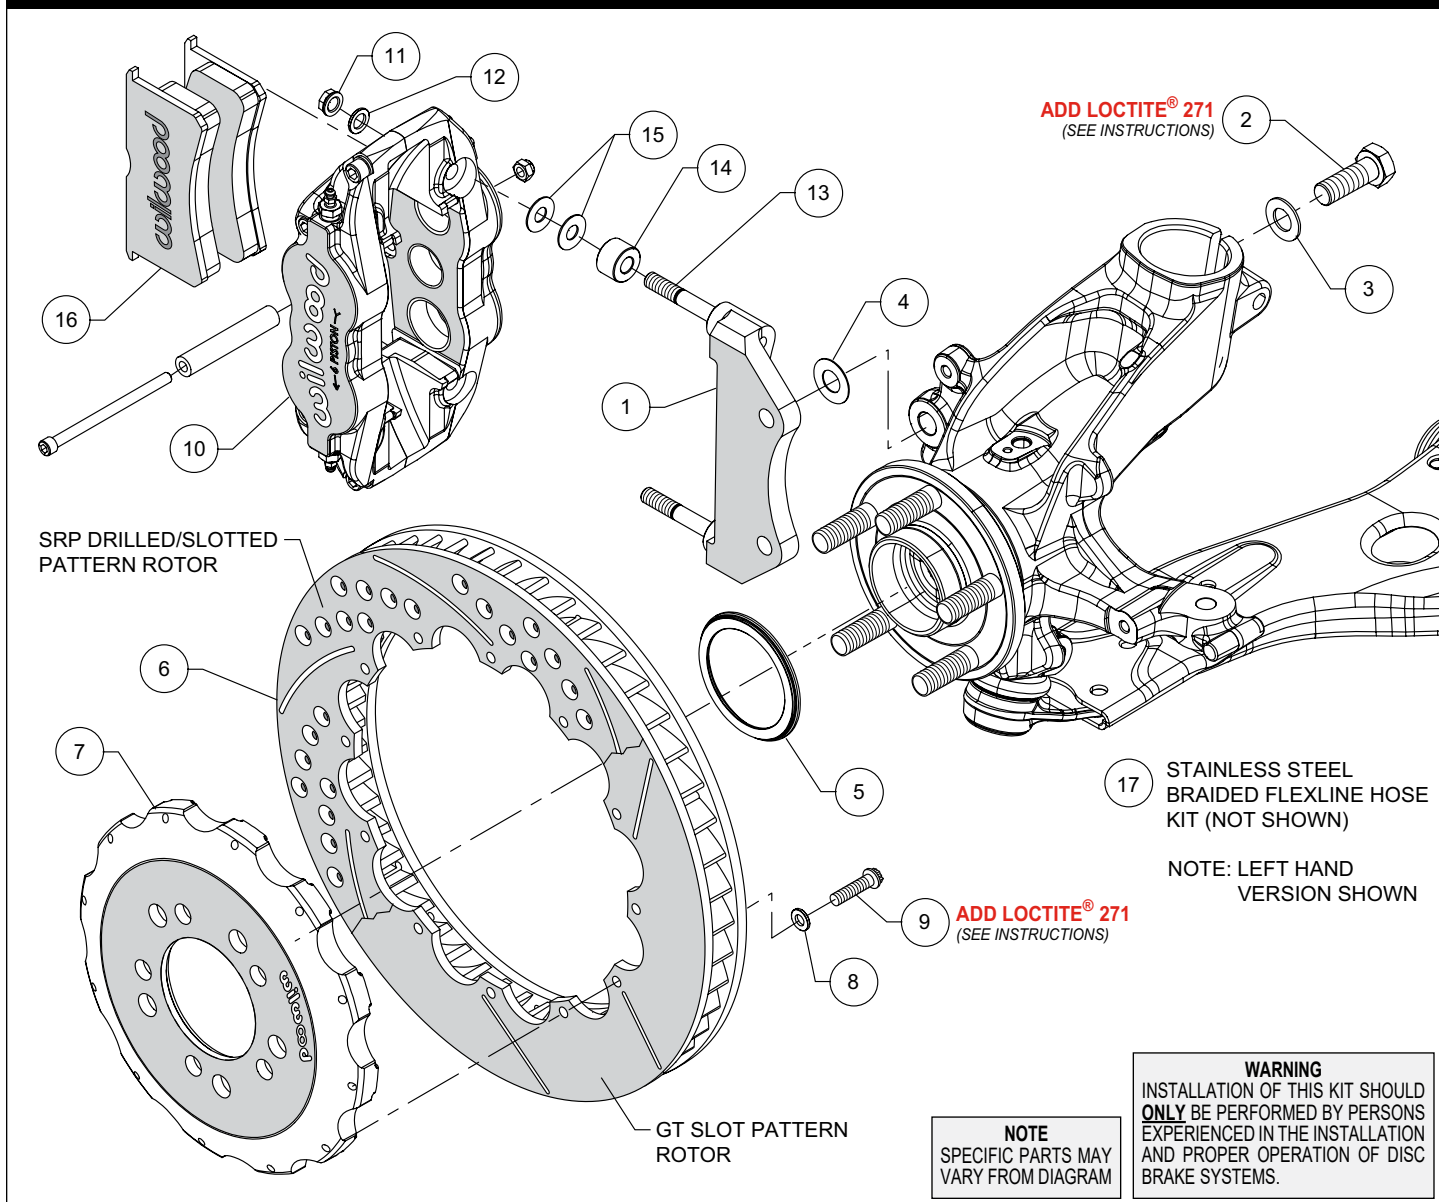
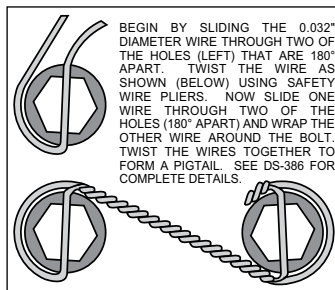

Figure 1. Typical Installation Configuration
Figure 3. Safety Wire Diagram
**Assembly Instructions** (numbers in parenthesis refer to the parts list and Figure 1 on the preceding pages):
- The caliper mount bracket (1) should initially be installed with clean, dry threads on the mounting bolts. Orient the bracket as shown in Figure 1 and Photo 1, and install using washers (3) and bolts (2). Initially place one .029 thick shim (4) on each bolt between the bracket and upright, Figure 1. Temporarily tighten the mounting bolts. **NOTE: The bracket must fit squarely against the mount bosses on the upright.** Inspect for interference from casting irregularities, machining ridges, burrs, etc. Later, after the caliper alignment has been checked, the mount bolts will be secured using red *Loctite*® 271.
- Orient the rotor (6) and the hat (7) as shown in Figure 1 and Photo 2. Attach rotor to hat using bolts (9) and washers (8). Apply red *Loctite*® 271 to the bolt threads and torque to 155 **in-lb** using a criss-cross pattern. For an added measure of security, the bolts may be safety wired using standard 0.032 inch diameter stainless steel safety wire as shown in Figure 3. Please refer to Wilwood's data sheet DS-386 (available at [www.wilwood.com/Pdf/DataSheets/ds386.pdf](http://www.wilwood.com/Pdf/DataSheets/ds386.pdf)) for complete safety wire installation instructions.
- Slide the rotor registration adapter (5) onto the axle register on the axle hub with the smaller O.D. facing outward, Photo 3. Slide the hat/rotor assembly onto the axle hub. **NOTE: The hat must fit flush against the axle hub flange or excessive rotor run out may result.** Install three lug nuts (finger tight) to keep the hat/rotor assembly in place while continuing with the installation.
- NOTE: This kit contains distinct right and left hand calipers that must be mounted in a specific direction, as described below.** Initially place two .035" thick shims (15) and one spacer (14) on each stud (13) as shown in Figure 1 and Photo 4. Mount the caliper (10) onto the bracket (1) using lock nuts (11) and washers (12), Figure 1. Ensure that the caliper is mounted so that the largest pistons are at the rotor exit end of the caliper, in relation to the direction of rotor rotation. Temporarily tighten the lock nuts and view the rotor through the top opening of the caliper. The rotor should be centered in the caliper, Photo 5. If not, adjust by adding or subtracting shims (4) between the bracket and the upright. Always use the same amount of shims on each of the two mounting bolts. Once the caliper alignment is correct, remove the bracket mounting bolts (2) one at a time, apply red *Loctite*® 271 to the threads, and torque to 60 ft-lb.